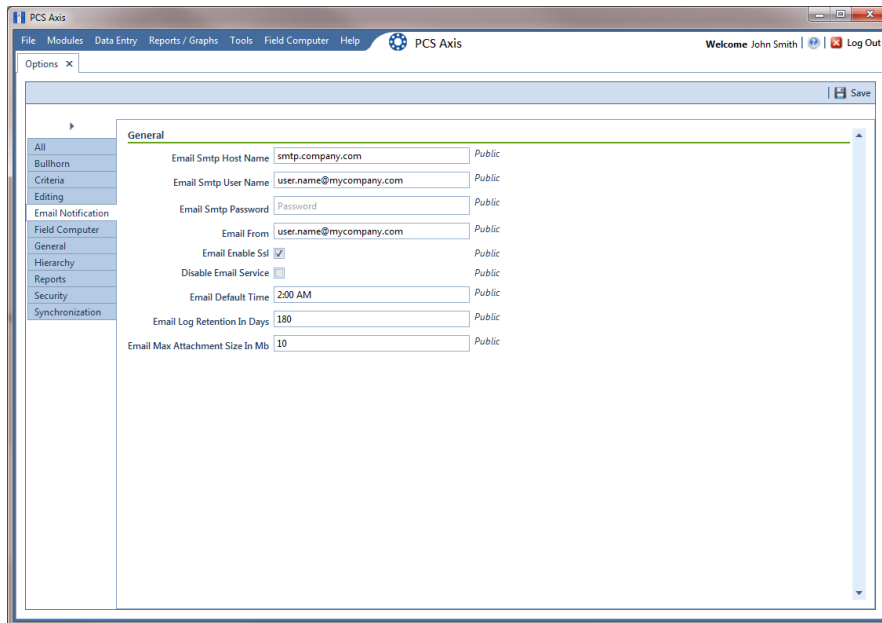

Figure 12-16. Options / Email Notification
- b** Click the **Email Notifications** tab to view property settings for *Email Notification* (Figure 12-16).